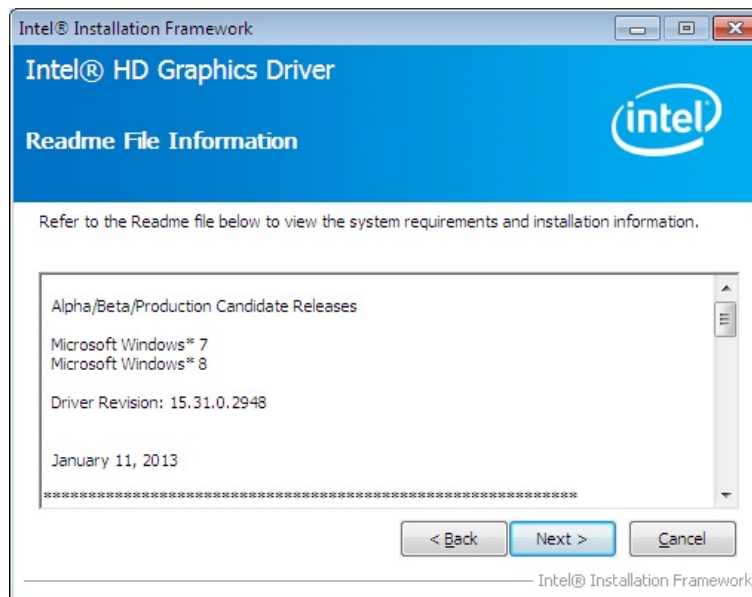

Figure 6-10: Graphics Driver Read Me File
Step 8: The **Read Me** file in **Figure 6-10** appears. Click **Next** to continue.